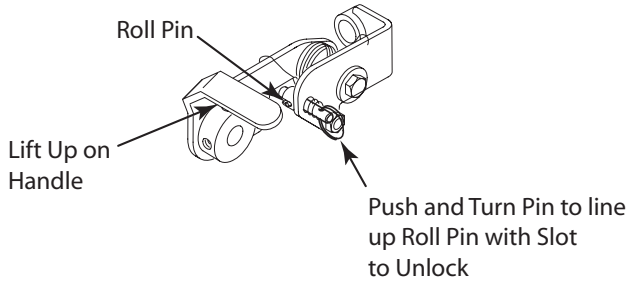

FIGURE 2-1
1. To unlock the Tiger Striper from the transport position, lift up slightly on the handle and turn the lock pin until the small roll pin lines up with the slot. See Figure 2-1 on page 2.